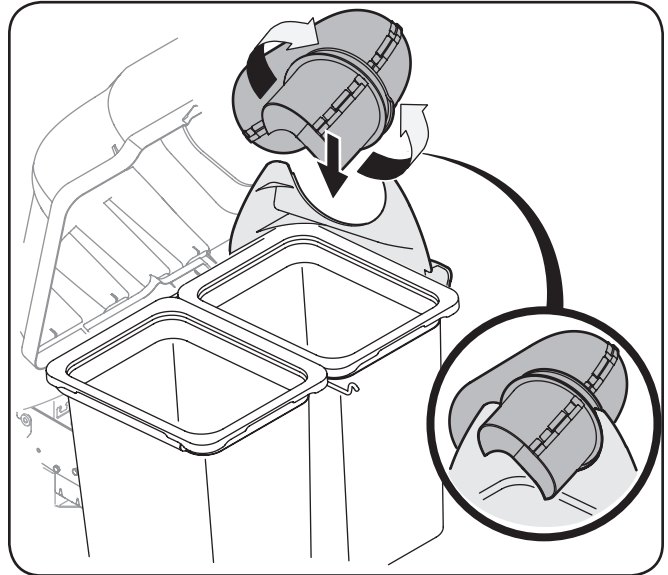

Figure 4-27
4. Continue to work the discharge chute down over the chute elbow until the groove on the discharge chute aligns with the upper chute support, as shown in the inset of Figure 4-27.